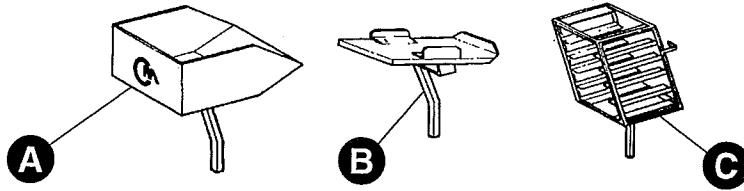

FIG. 8
Planting box as shown in fig. 8.A normally come supplied. There are also other types of plant holder:
- inclined box holder (fig. 8.B)
- plant holder for plants with rootball (fig. 8.C).